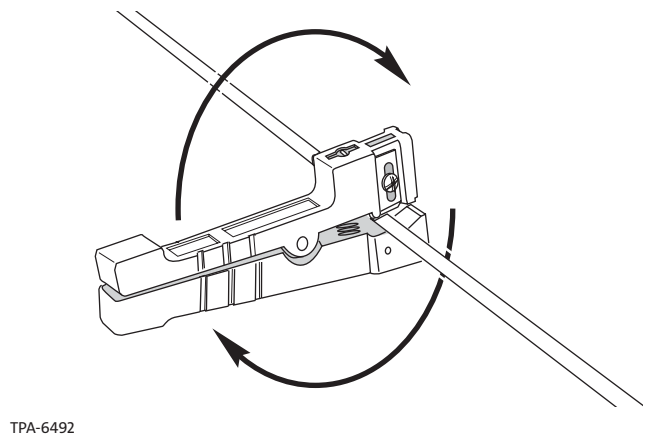

Figure 9
- c. Make enough turns with the cutter to deeply score the tube (Figure 9). Two turns may be adequate with a sharp blade.